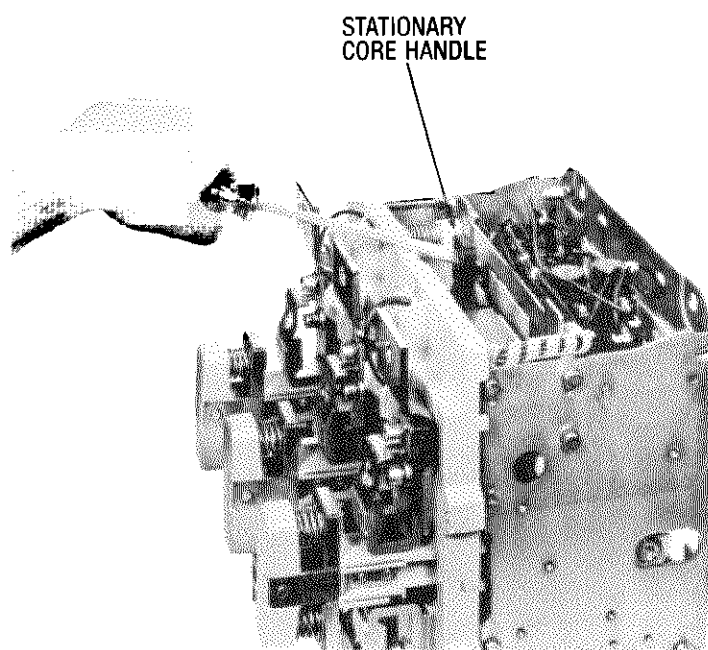

Fig. 1 -- COIL REMOVAL
4. Remove feeder group cover and insert the tip of a long shaft screwdriver into the eye of the stationary core handle as shown in Fig. 1. Using the screwdriver as lever, gently pry stationary core upward until detents on the sliding blocks engage stop bars of contactor frame.